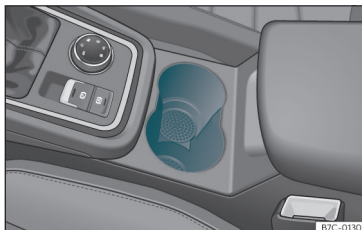

Fig. 131 Centre console: drinks holder.
- Place drinks in the holder >>> Fig. 131. Placement of two drinks is possible. There is also the possibility of placing larger plastic bottles in the trims of the doors.